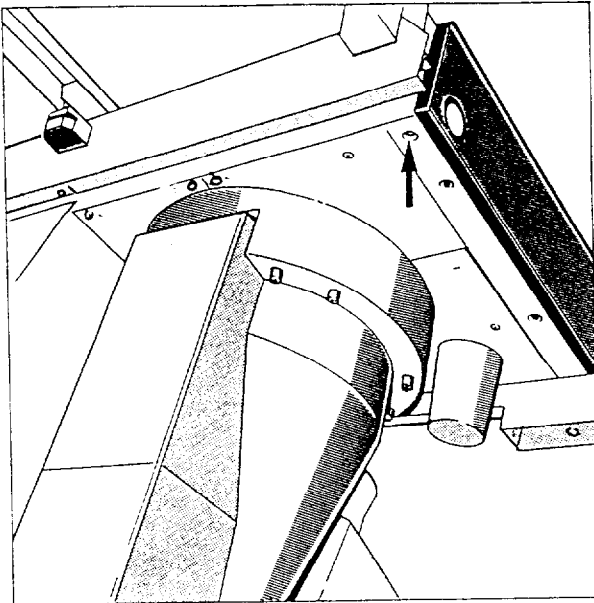
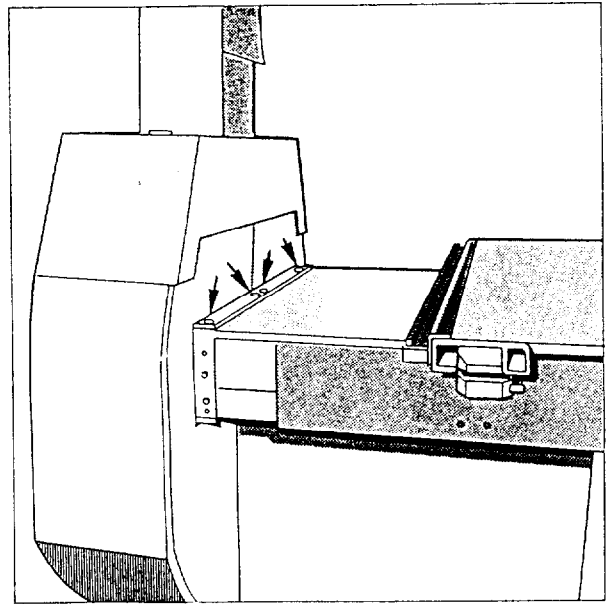

Fig.1
Fig.2
- Remove the screws marked with an arrow in Fig. 1 and Fig. 2 below the spotfilm device at the front and before the tube column swivel piece at the rear.
- Fasten the panelling in place (↗/Fig. 1 and 2).